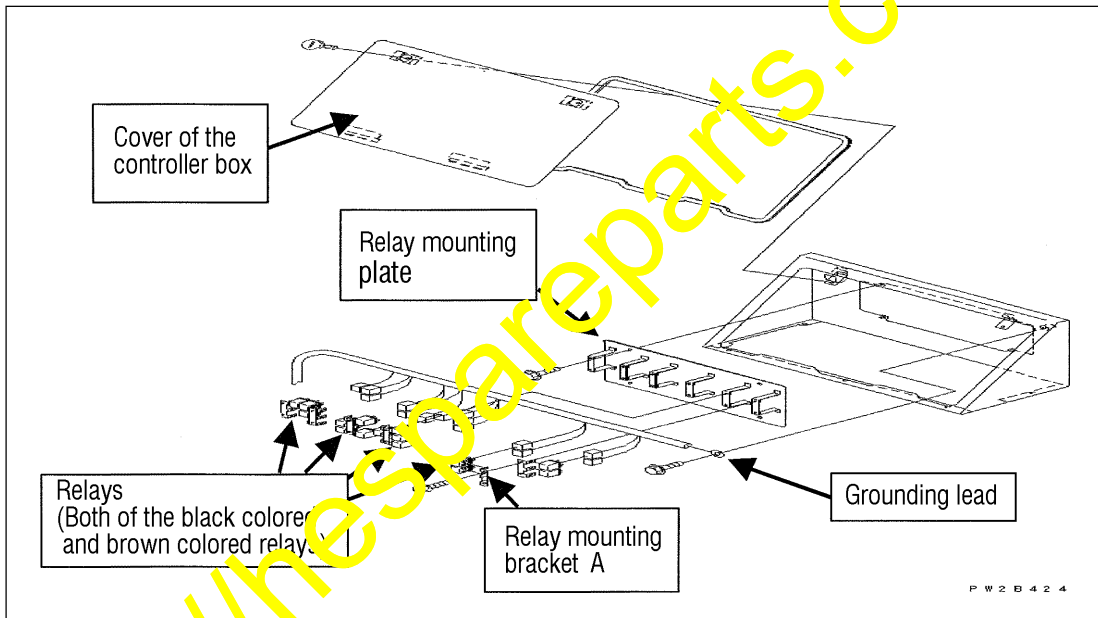

Fig. 19
- 1) Open the cover of the controller box being positioned behind the operator's seat inside the operator's cab, separate the grounding lead and remove the relay mounting plate. (Refer to Fig. 19.)
- 2) Remove all the relays except for ones for the power window and remove the relay connectors from the relay mounting bracket A. (Refer to Fig. 19.)